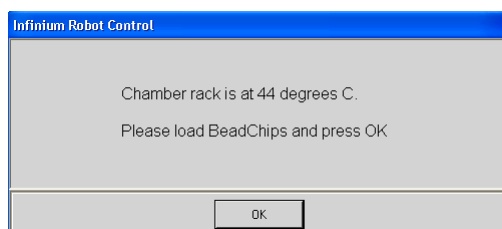

Figure 168 Load BeadChips Message
4. When prompted (Figure 168), remove Hyb Chamber from the Illumina Hybridization Oven.
8. Click **OK** (Figure 168). A series of reactions begins, each with a wait time. Message boxes on the robot PC tell you which reaction is occurring and how long the wait time is. The total wait time is 1 hour and 20 minutes.